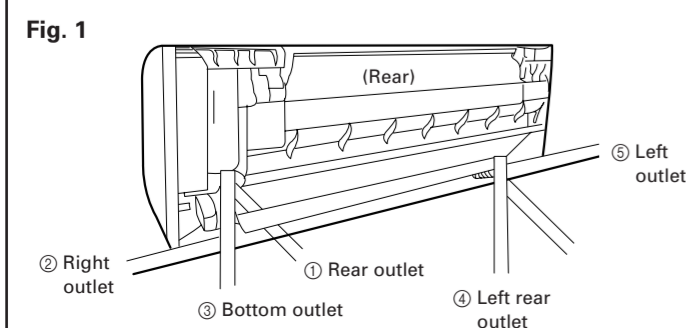

Fig. 1
The piping can be connected in the five directions indicated by ①, ②, ③, ④, and ⑤ in (Fig. 1). When the piping is connected in direction ② or ⑤, cut along the piping groove in the side of the front cover with a hacksaw. When connecting the piping in direction ③, cut a notch in the thin wall at the front bottom of the front cover.